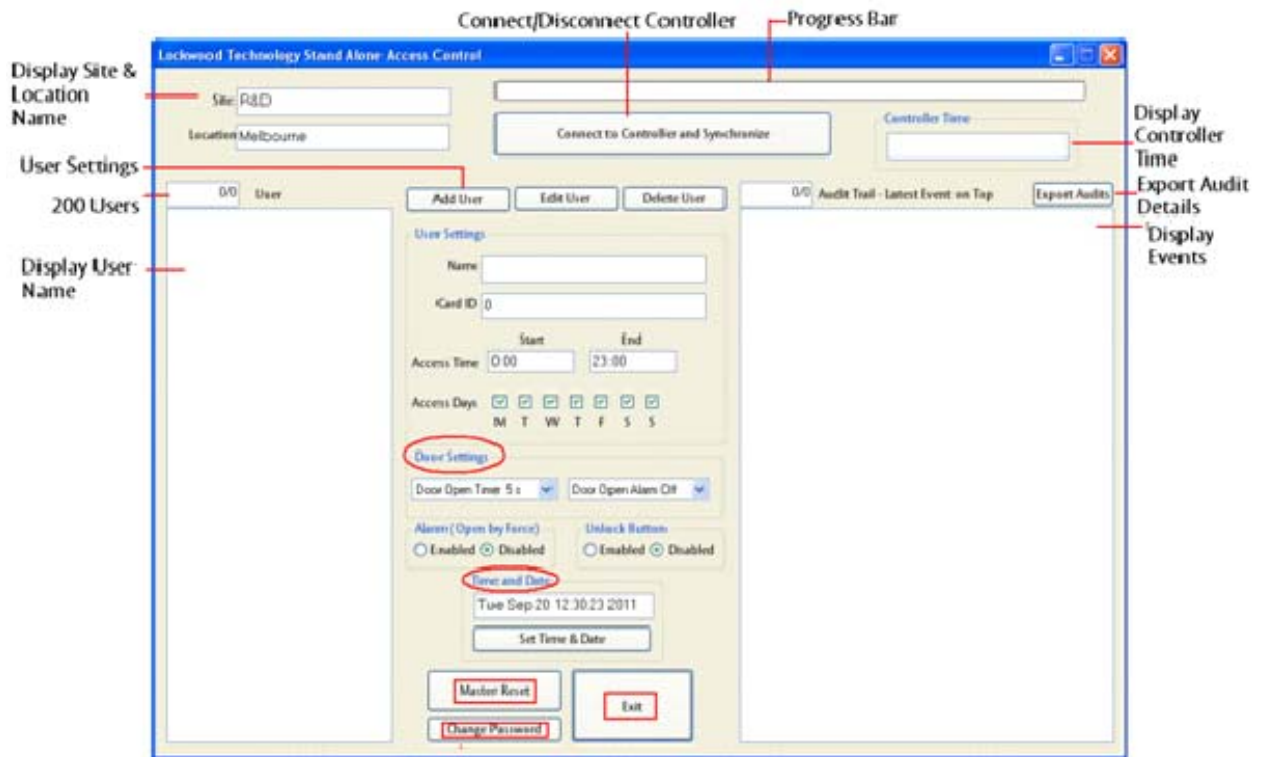

Figure 9: New Installation - Add User Information Window
Below figure 9 shows the new installation window, where end user details can be created or modified
- Refer figure 9.
This will show end user process of connect/disconnect of the Controller. Refer figure 9.
- As shown in below figure 9, this section is used to add, edit or delete user from the data base list, by selecting **Add User**, **Edit User** and **Delete User** buttons see figure 7.
- Refer figure 9 and 21.